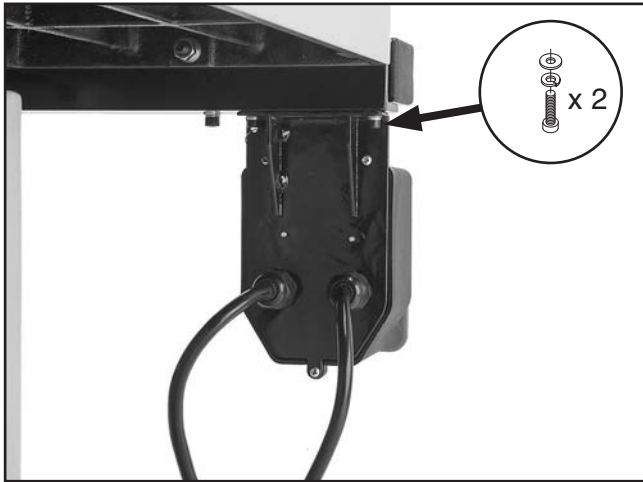

Figure 29. Switch installed.
23. Attach switch to bottom left-hand side of front rail using (2) M5-.8 x 14 cap screws, 5mm lock washers, and 5mm flat washers, as shown in **Figure 29**.